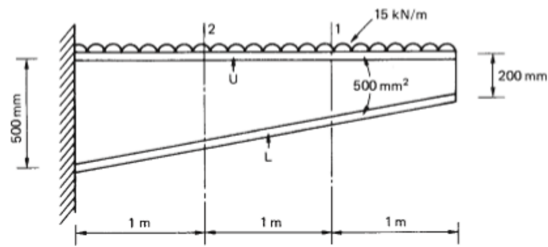

Figure 6
- (b) Calculate the shear flows in the web panels and direct load in the flanges and stiffeners of the beam shown in Figure 6 if the web panels resist shear stresses only. [7M]